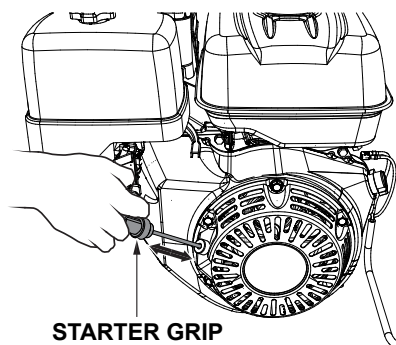

Figure 25. Starter Grip
- Slowly pull the starter grip (Figure 25) until resistance is felt, then pull briskly and smoothly to start the engine. Gently return the starter grip to its original position.